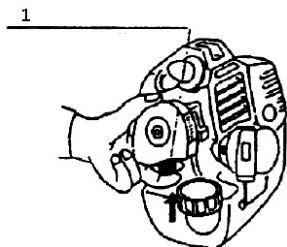

Fig. 8
• Press the Primer Bulb several times to ensure fuel is passing through the carburettor. This will aid in the unit starting easily. (Fig 8)